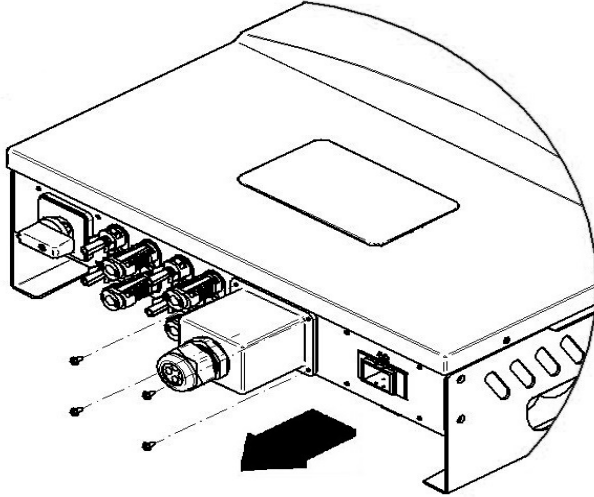

Fig 14: Remove the RS485 port housing
4. Ensure the electrical polarity (L1, L2, L3, N, G, see Fig 14) and push the connector housing into the inline receptacle kit until the latch is positioned.